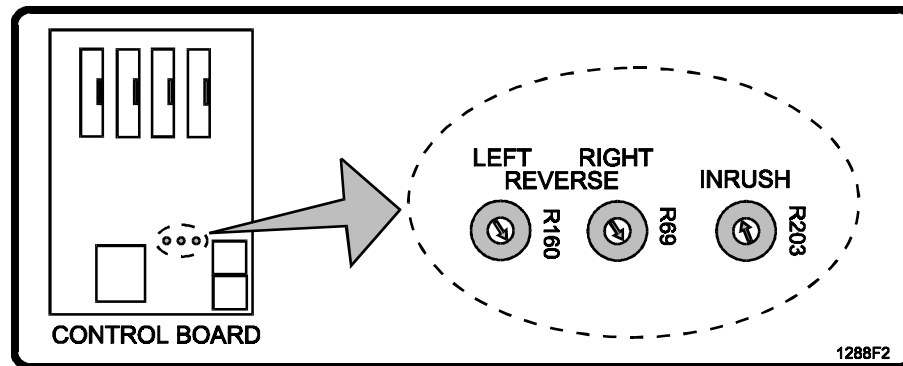

Figure 8. Gate Sensitivity Adjustments Location.
- ◆ Before starting the adjustments, verify that the Left and Right reverse pots are set fully clockwise, and the Inrush pot is set to the 9 o'clock position (see (Figure 8)).